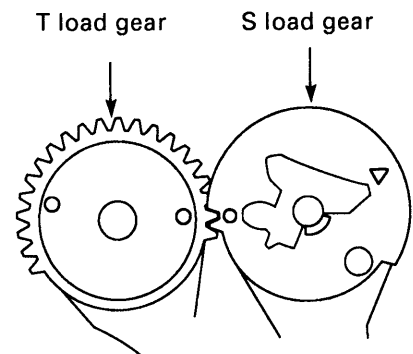

Fig.3-17-3
2. Before fitting the crescent slide ③, refer to section 3-13-3 and align the arrow on the S brake act slide with the arrow on the mechanism chassis. Then refer to Fig.3-17-3 and check that the S load gear and the T load gear have completed tape unloading.
3. When assembling the parts, raise the right side of the crescent slide ③ slightly, and keeping it in this position, slot the left side into the clamp ④, then align the hole ⑤ with the hole ⑥ in the mechanism chassis. When you do this, check that the hole ⑦ is aligned with the pin ⑧ on the BT spring lever assembly, and that the hole ⑨ is aligned with the pin ⑩ on the S brake act slide, before pressing the crescent slide ③ into place. Check that the clamps ①, ② and ④ are engaged.
2. When fitting the S load gear ② and the T load gear ⑤ align them in the tape-loaded state, as shown in Fig. A in Fig.3-17-3. Again, after completing tape-unloading on these gears, check that they are positioned as shown in Fig. B in Fig.3-17-3, then refer to section 3-14-2 and fit the S and T incline mounting assemblies.